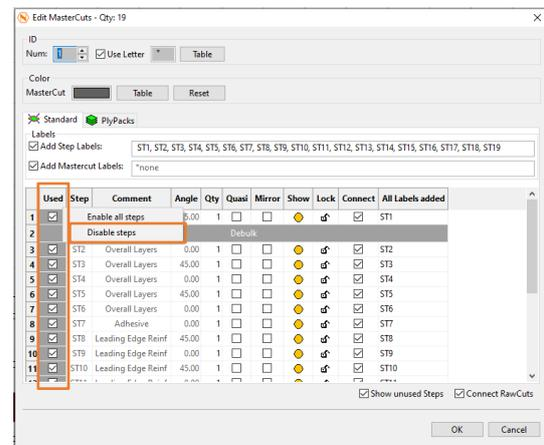

Figure 272
- 67. Since we just need step 7 for our selected MasterCuts we must deselect all other steps. Therefore right-click on the label of the **[Used]** column and select **[Disable steps]** (Figure 272).